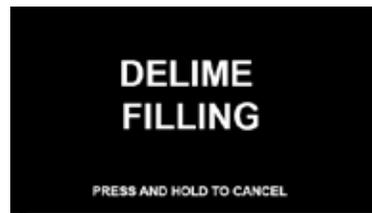

Fig. 53 - First delime fill.
9. First delime fill, Fig. 53.